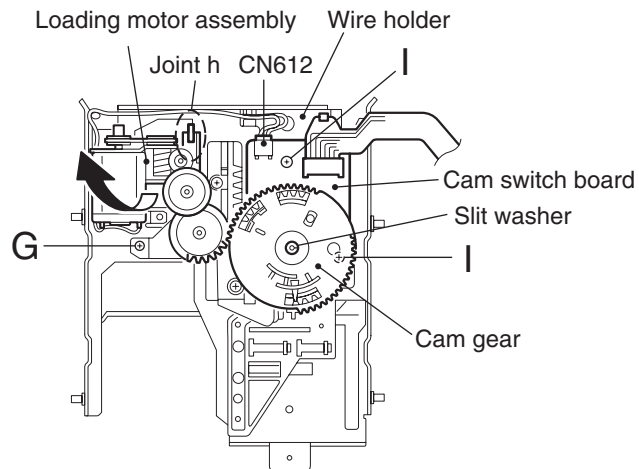

Fig.12
■Removing the loading motor (See Fig.12, 13)
■Remove the cam gear and the cam switch board (See Fig.12)